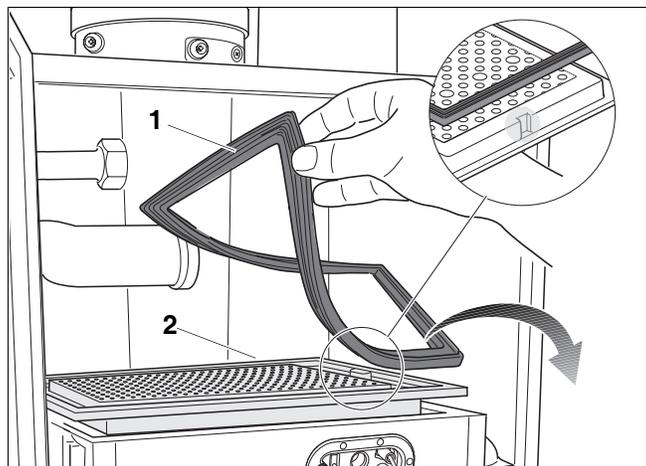

Fig. 85 Removing the burner plate and the burner seal
- Remove the burner seal (fig. 85, pos. 1) and replace it if necessary.
- Remove the burner plate (fig. 85, pos. 2) and clean it on all sides using compressed air or a soft brush.
When re-installing the burner plate make sure that the notch is on the right-hand side (fig. 85, see detailed picture).